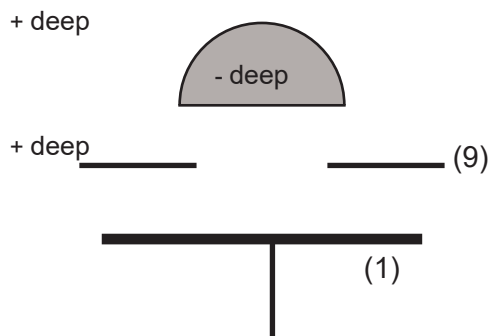

Fig. 18.1
For a better visualization of the phenomenon, insert the two barriers (9) between the source and the lens, such as shown in figure 18.1.